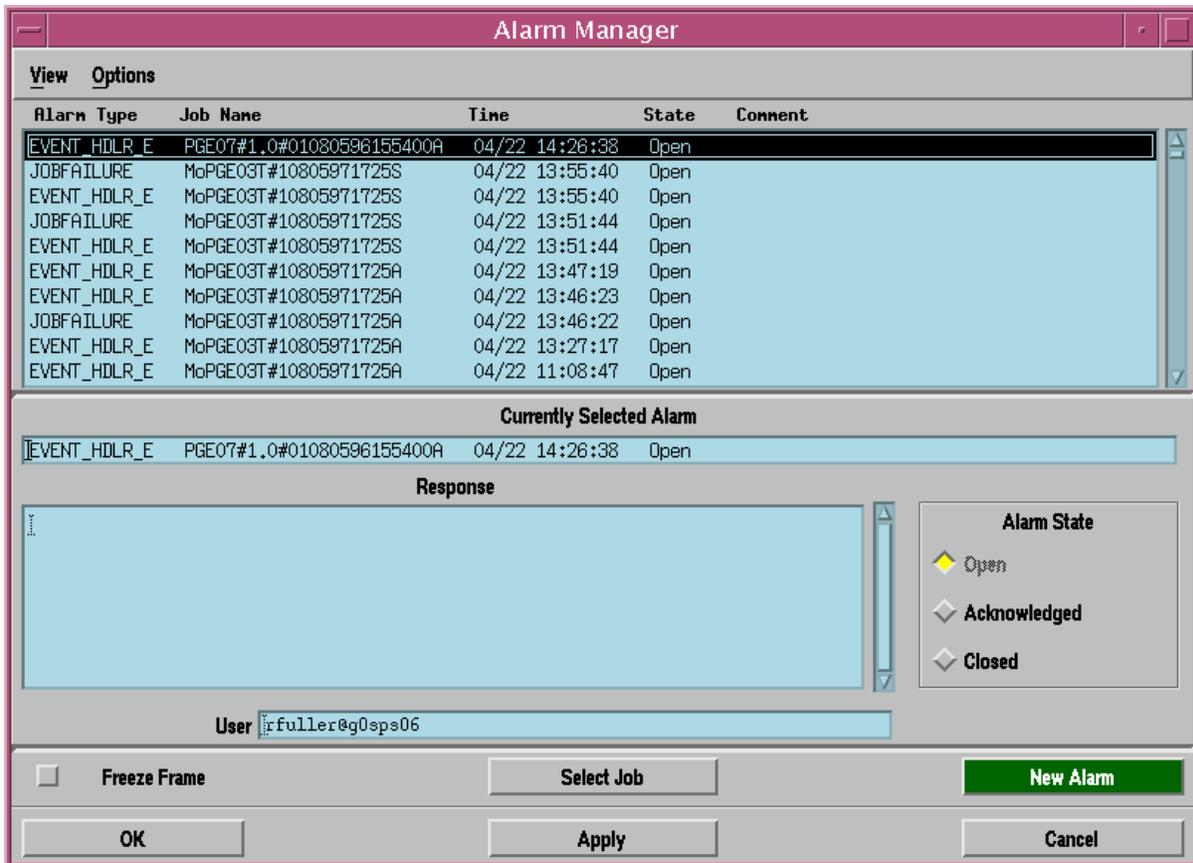

Figure 48. Alarm Manager GUI
- The **Alarm Manager** GUI (Figure 48) is displayed.